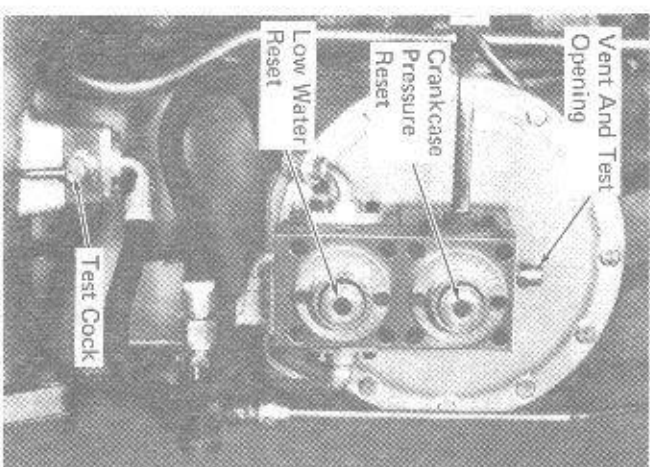

Fig. 3-3 - Low Water And Crankcase (Oil Pan) Pressure Detector
3. Observe that the crankcase (oil pan) pressure and low water pressure detector reset buttons are set (pressed in). If the buttons protrude, press and hold for 5 seconds immediately after engine starts, Fig. 3-3.